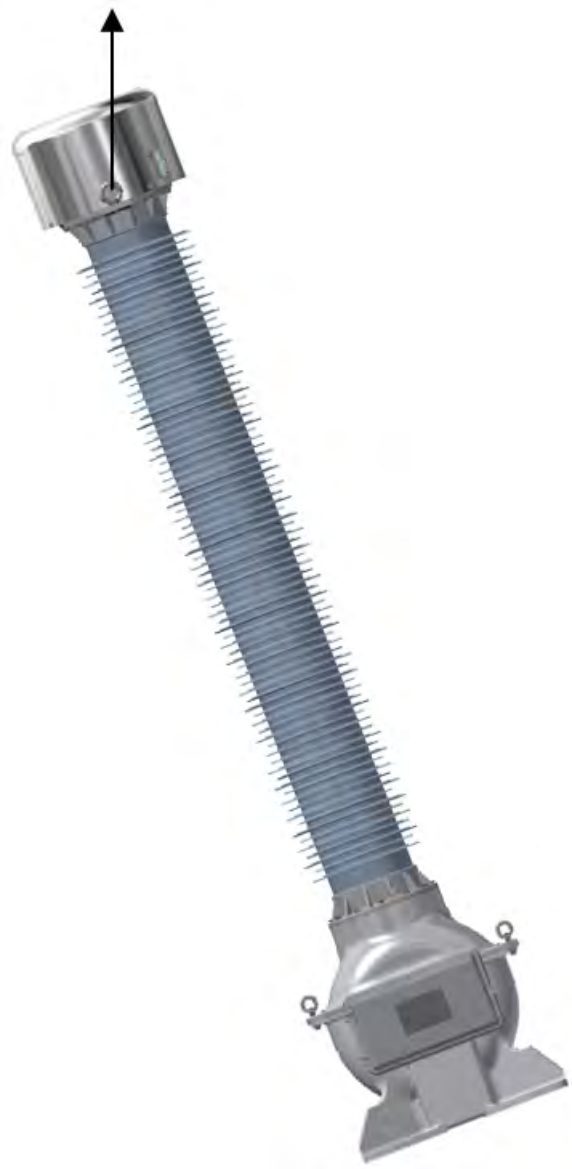

Fig. 22: Standing the IVO type voltage transformer up:
3. Secure the base against movement and only then bring the transformer into the vertical position (Fig. 22).